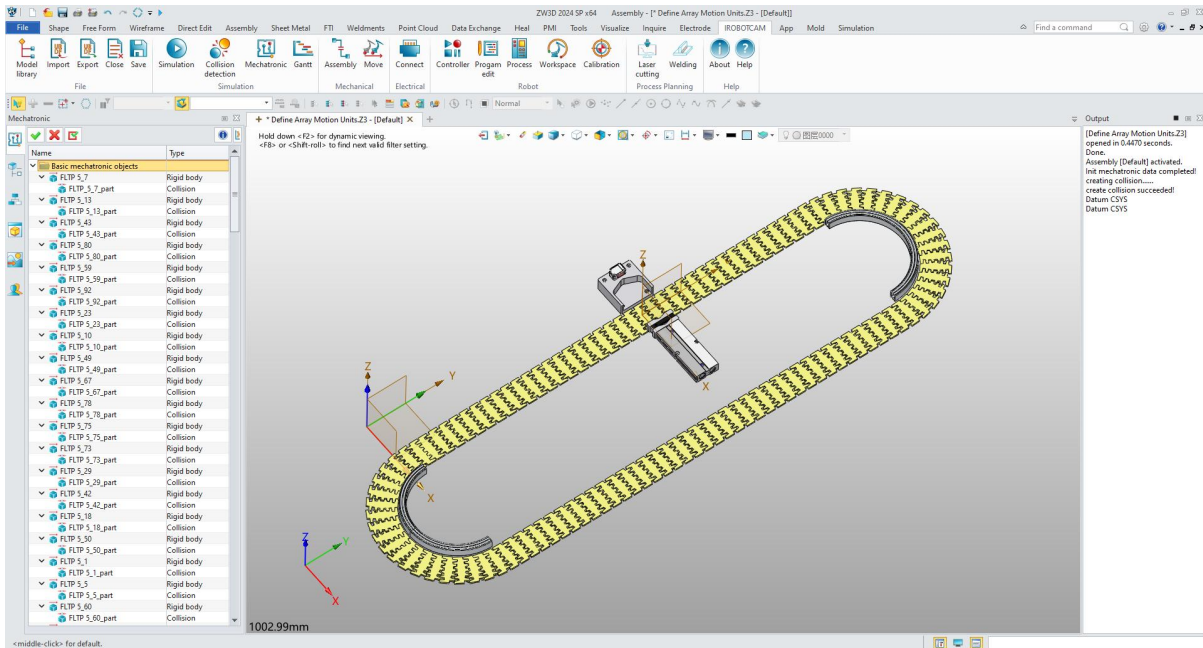

Figure 7-13: Array Elements
- Wait for the generation of the circular conveyor belt and all rigid and collision bodies on the conveyor belt under the basic mechatronic objects. (Figure 7-13)